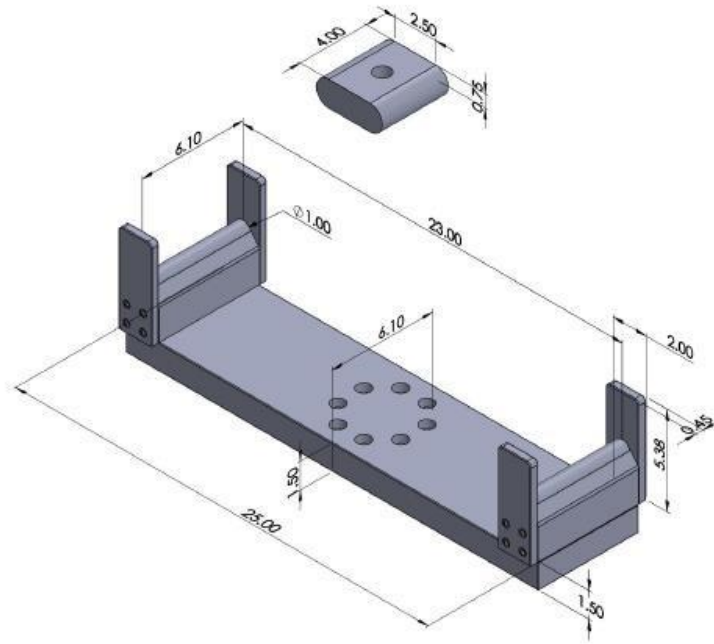
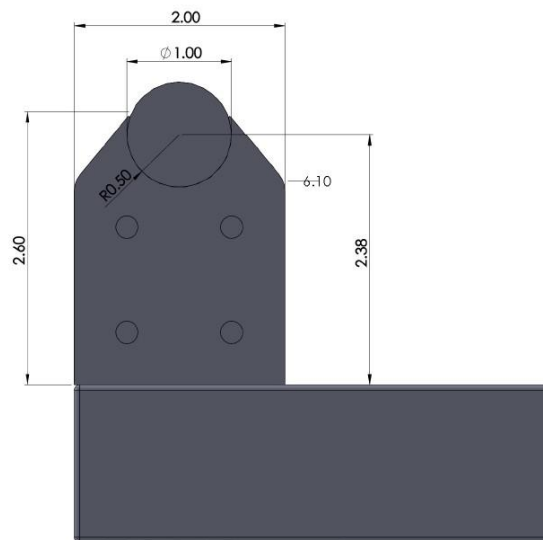

Figure 6. Loading Fixture with Bridge
Figure 7. Lower Contact Point
- 5.3. Equipment. The fixture consists of a base and loading block, shown in Figure 6. Dimensions for the lower contact points are further dimension in Figure 7. The corresponding load case is depicted in Figure 7. The fixture will be installed and oriented prior to the competition; adjustments are permitted during the competition.